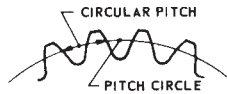

FIGURE 1.9 — CIRCULAR PITCH
- 1.22 Circular Pitch** is the distance along the pitch circle or pitch line between corresponding profiles of adjacent teeth. (Figure 1.9)